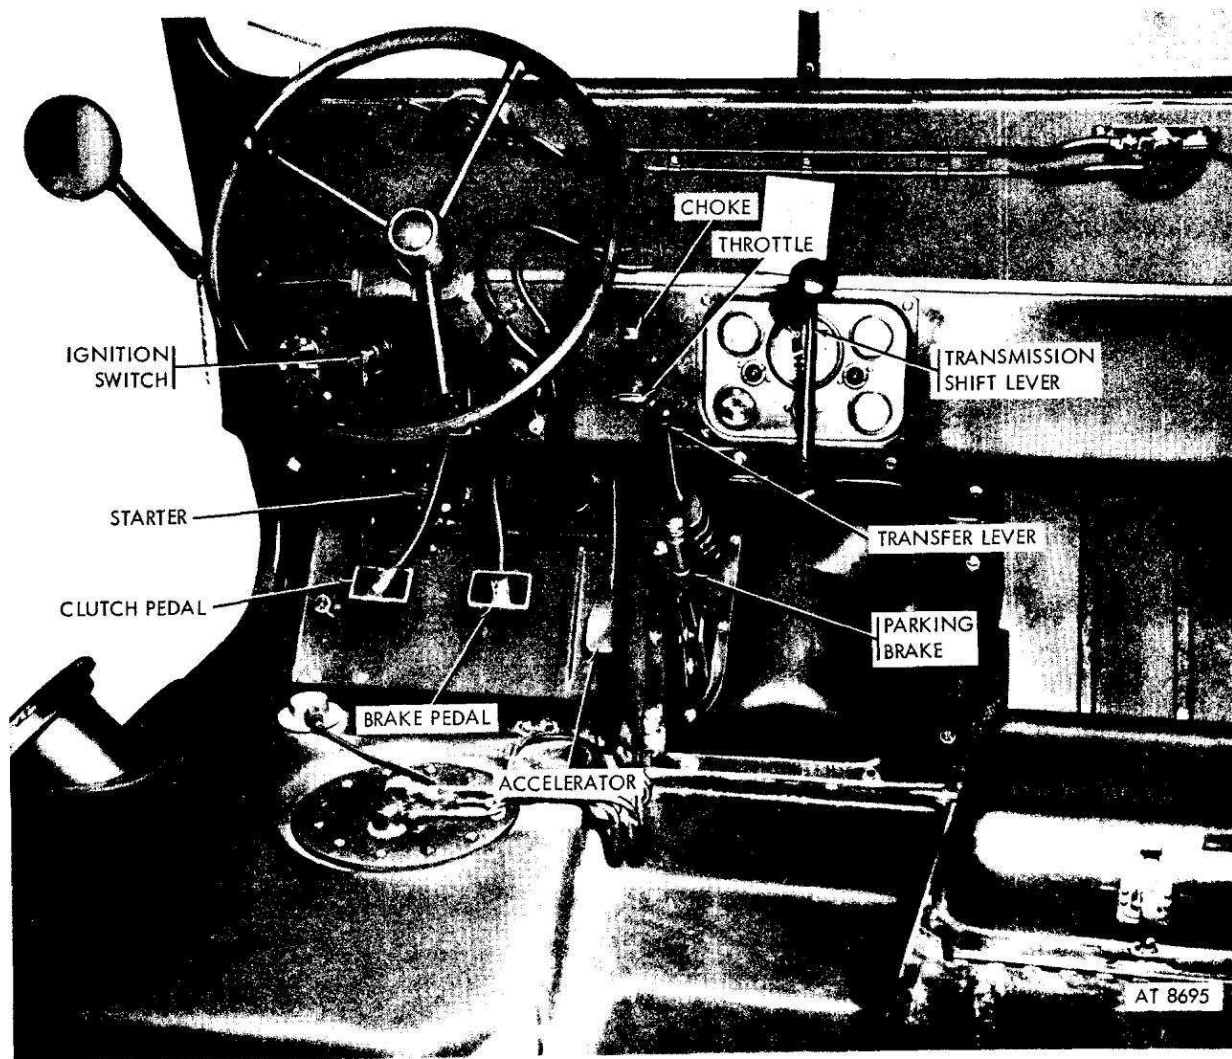

Figure 2-6. Starting and driving controls.
b. Apply (pull back) parking brake (figs 2-6, 2-1-(J)).
c. Place transmission (gear) shift lever in neutral (figs 2-6, 2-1-(H)).
e. Release parking brake lever (figs 2-6, 2-1-(J)) and move lever forward to release parking brake.